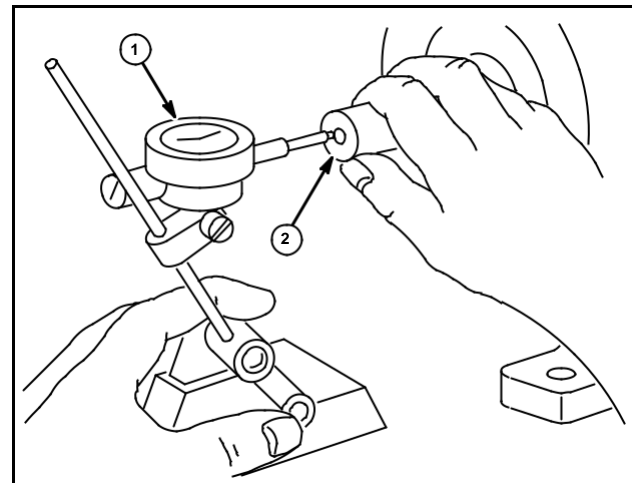

Fig. 46
1. Place a dial indicator (1) against end of drive shaft (2), Fig. 46.